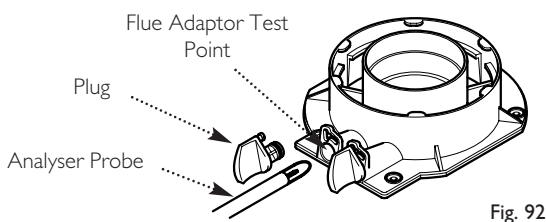

Fig. 92
8. Remove the plug from the flue adaptor test point. Insert the analyser probe and allow time for the reading to settle (Fig. 92).